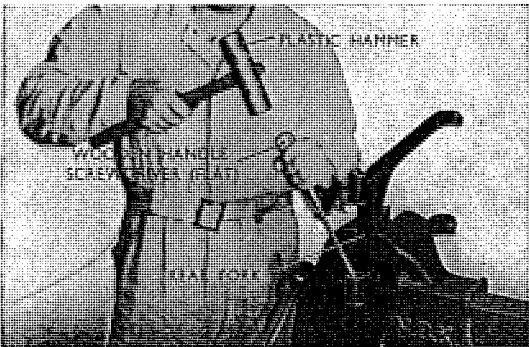

Fig. 4.61 Removing rear fork pivot bushing
6. Remove the rear fork center collar and the rear fork pivot bushing by light tapping. (Refer to Fig. 4.61)